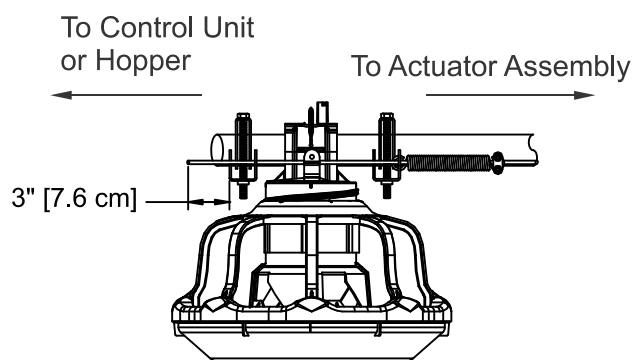

Figure 73. Trim excess actuator wire at control/hopper
5. With the actuator in the open position and the brood gate open tighten the 10-24 screw for each pan. With the brood in the open position. Go to the control unit or hopper end to trim the extra actuator wire. Leave **3 inches [7.6 cm]** of excess wire past the spring bracket, **see figure 73.**